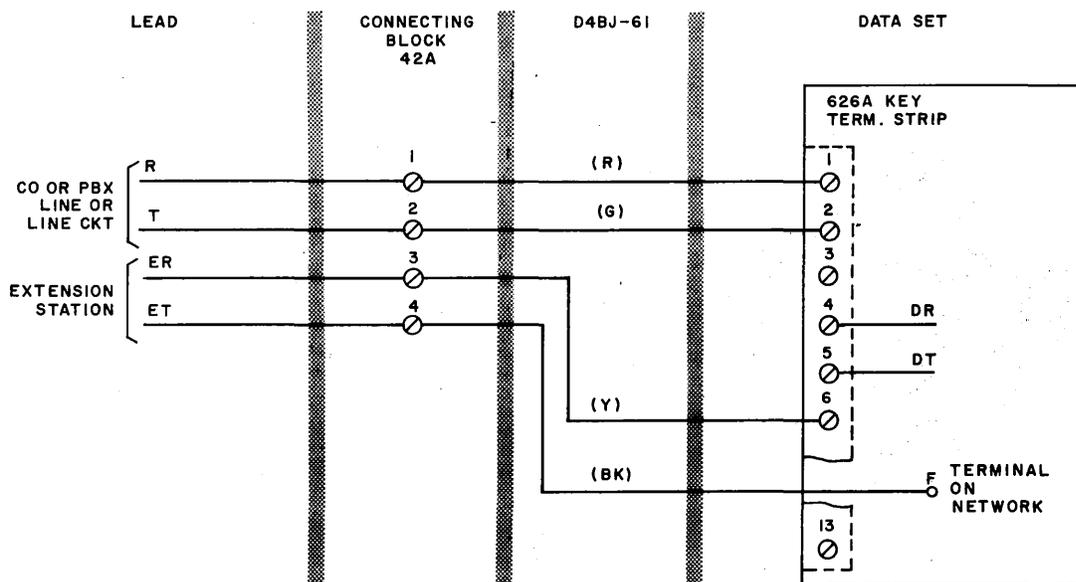

Fig. 4—Data Set 401E1 Connections (D4BJ-61 Cord)
3.04 Data set 401E1 is equipped with a D4BJ-61 mounting cord. The connections made with this cord are shown in Fig. 4.